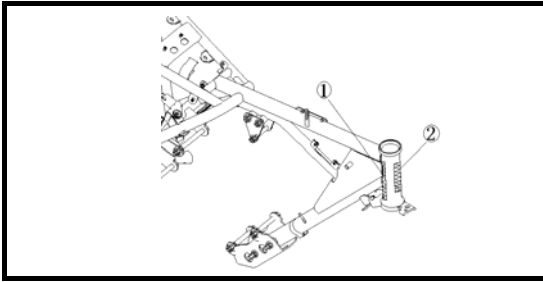

Figure 1-1
1. Frame number ① labeled as: \*LBBJ8300????????\*,,as shown in Figure 1-1.
2. Frame nameplate is riveted at frame Position ②, as shown in Figure 1-1. Words on the nameplate are as described in Figure 1-2.